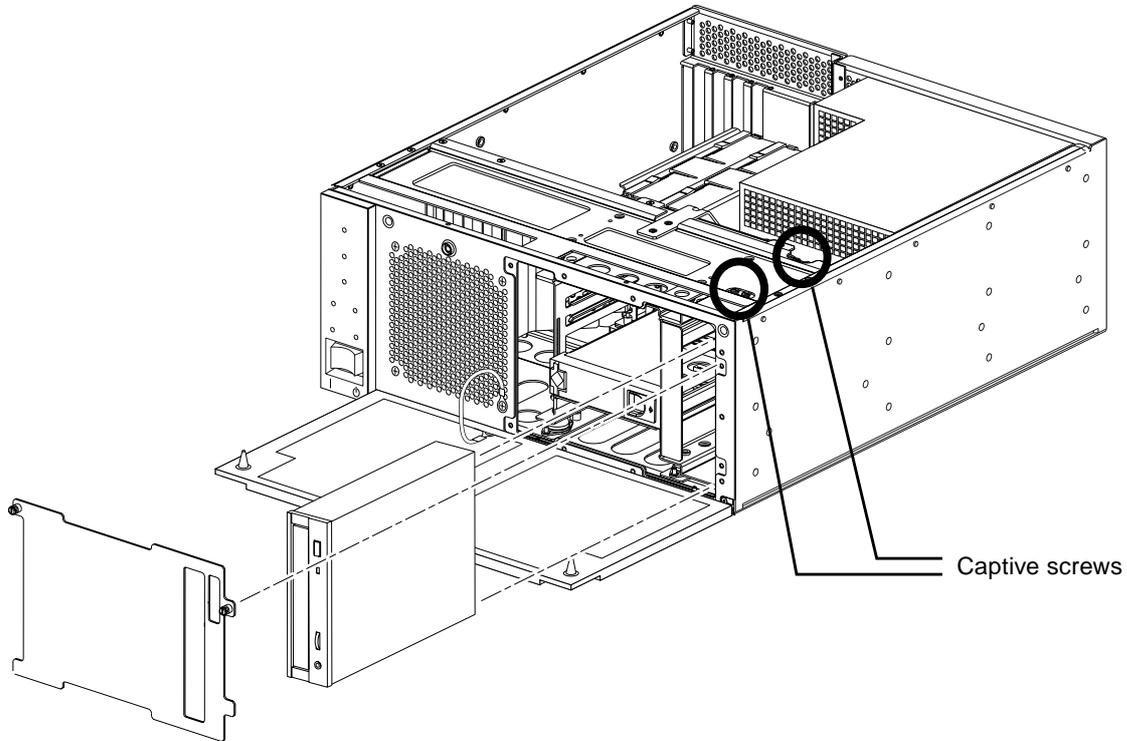

FIGURE 9-2 Removing and Replacing the CD-ROM or Tape Drive
- 8. Push the drive fully into the drive assembly (FIGURE 9-2 on page 9-6).**